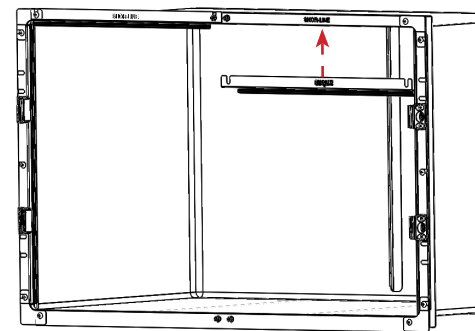

FIGURE 2.18 - Right Head Seal Installation
**STEP 5:** Tighten all trim plates, strips and hardware to secure the jamb and head seals in place. See FIGURE 2.18